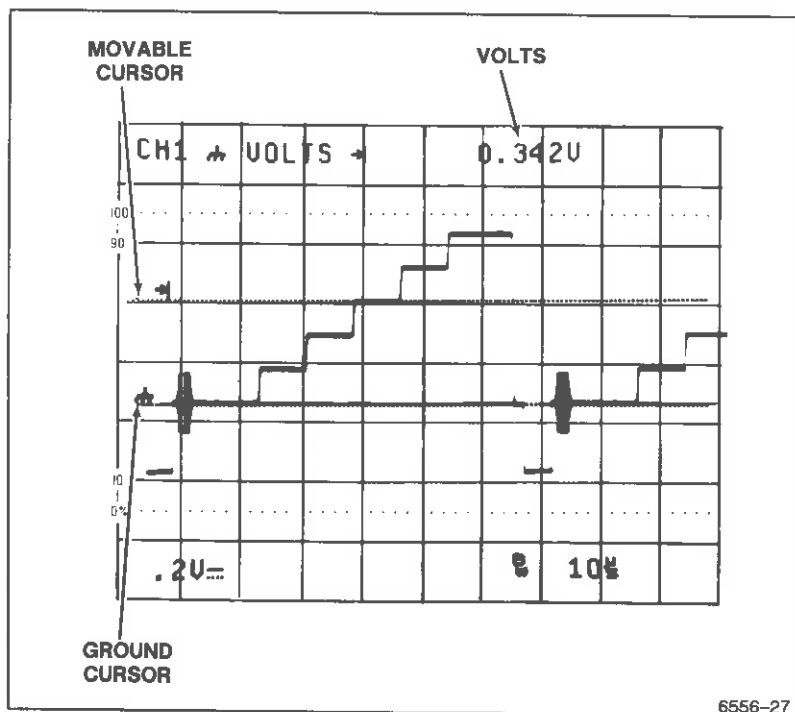

Figure 5-4. Voltage measurement.
- Position the independent cursor using the \rightarrow control to the measurement point on the waveform and read out the value of the cursor position (shown in Figure 5-4). (The \leftarrow OR DELAY control has no effect.)
The test signal used for illustration purposes in Figure 5-4 is a video test signal. For triggering on a video waveform, select TV LINE Trigger COUPLING and negative (\neg) Trigger SLOPE; for other signal types, no change of COUPLING or SLOPE is required.